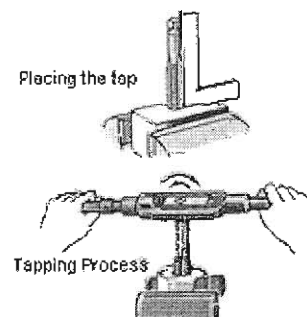

Fig. 1.27 Method of Tapping
- A bar type tapping is illustrated in figure 1.27.